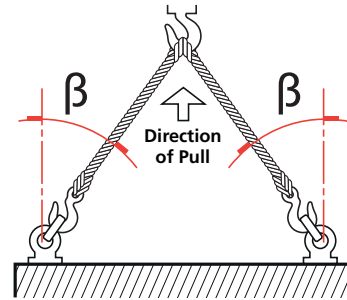

Fig 7.1 Lifting (single-acting actuator up to size 161)
- In case of Single-acting actuator, hook the double chain slings on the lifting lugs, as shown in Fig 7.1.